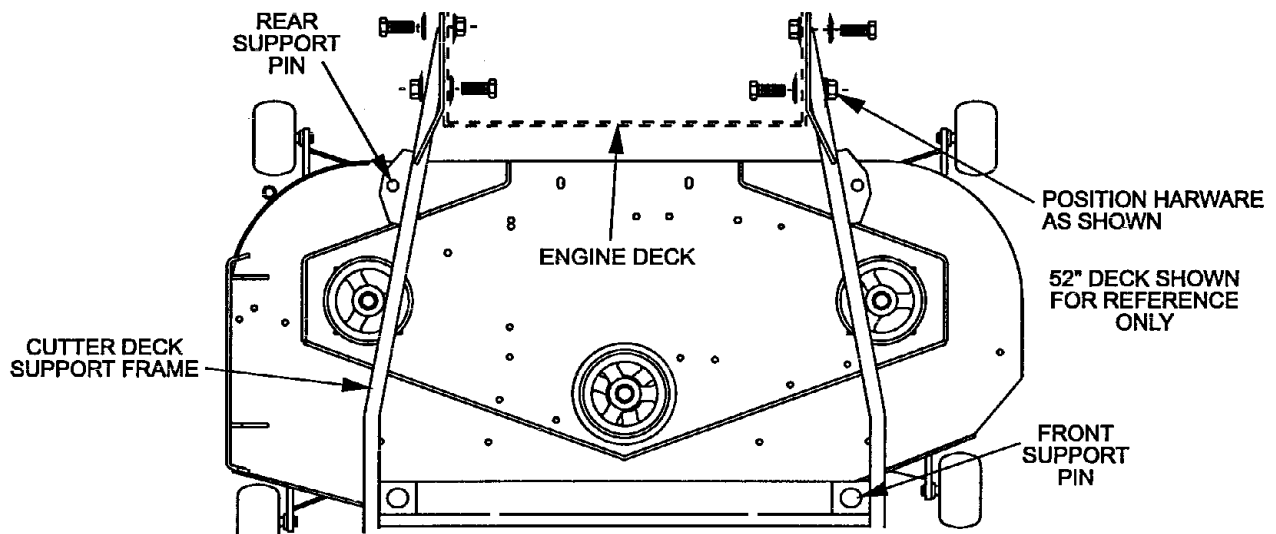

FIG. 1
NOTE: Place spring washer cone against bolt head and install with the whizlock nut to the **inside of engine deck** for the two **rear** holes on both sides. Install whizlock nut to the **outside** for the two **front** bolt holes on each side of the **cutter deck support frame**. (See Figure 1). Tighten until spring washers are flat.
- 3.6.4 Position tractor, with cutter deck support frame in place, over the cutter deck. Align support frame above cutting deck and position it so the support pins on the deck align with the mounting holes in the support frame. Lower support frame onto deck and Reinstall the two large hairpins and washers on the front support pins and the two smaller hairpins and washers onto the rear support pins (See Figure 1).